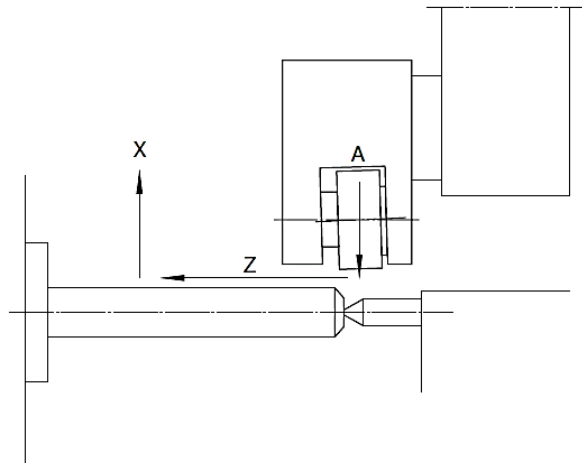

Figure 16: The rolling process
AC rolling system were primarily developed for rolling threads of unlimited length. The individual steps of the axial rolling process are illustrated in Fig. 16. The rolling head is moved in the tangential direction to the center of the workpiece (A) and then the rolling head is pressed axially against the workpiece (Z), with the feed rate corresponding to the pitch of the thread to be rolled.